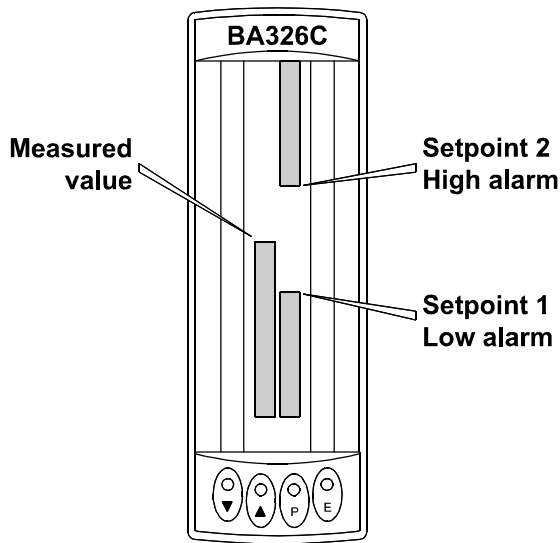
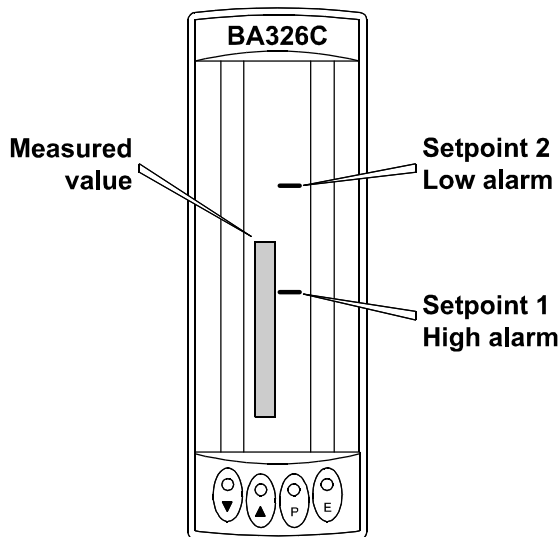

Fig 11A Set point display
Fig 11B Display with set points reversed
When alarm 1 is programmed as a low alarm and alarm 2 as a high alarm, the display shown in Fig 11A will be produced providing setpoint 1 is less than setpoint 2. If the low setpoint (1) is greater than the high setpoint (2), or the function of the alarms is reversed, the setpoints will be indicated by two single segments on the right hand bargraph as shown in Fig 11B. If only one alarm is enabled the setpoint will be indicated by a column extending from the setpoint to the top of the display for a high alarm, and from the setpoint to the bottom of the display for a low alarm.